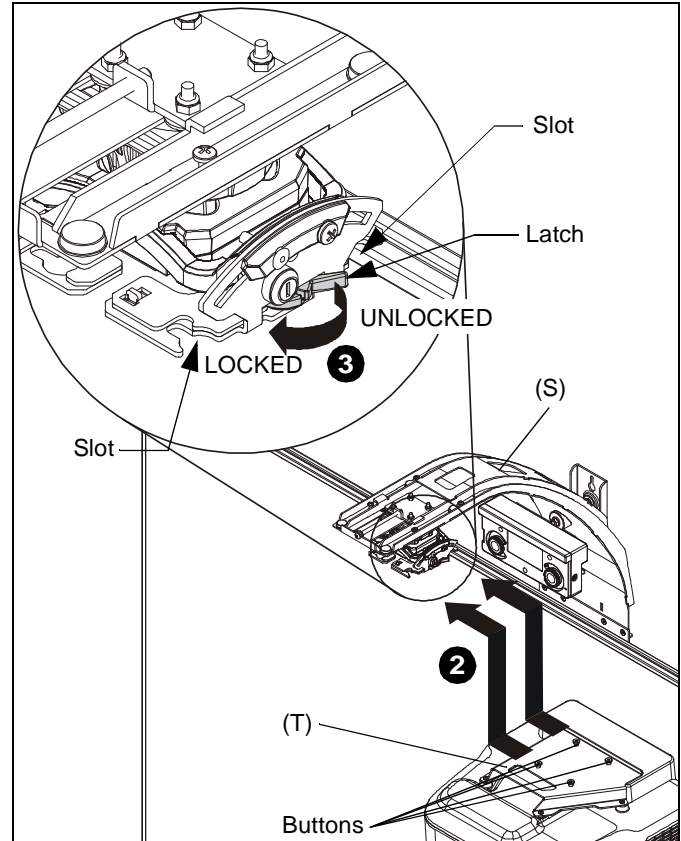

**Figure 10**
1. Attach projector interface (T) to projector using four M4 x 12mm Phillips cap head screws (V). (See Figure 10)